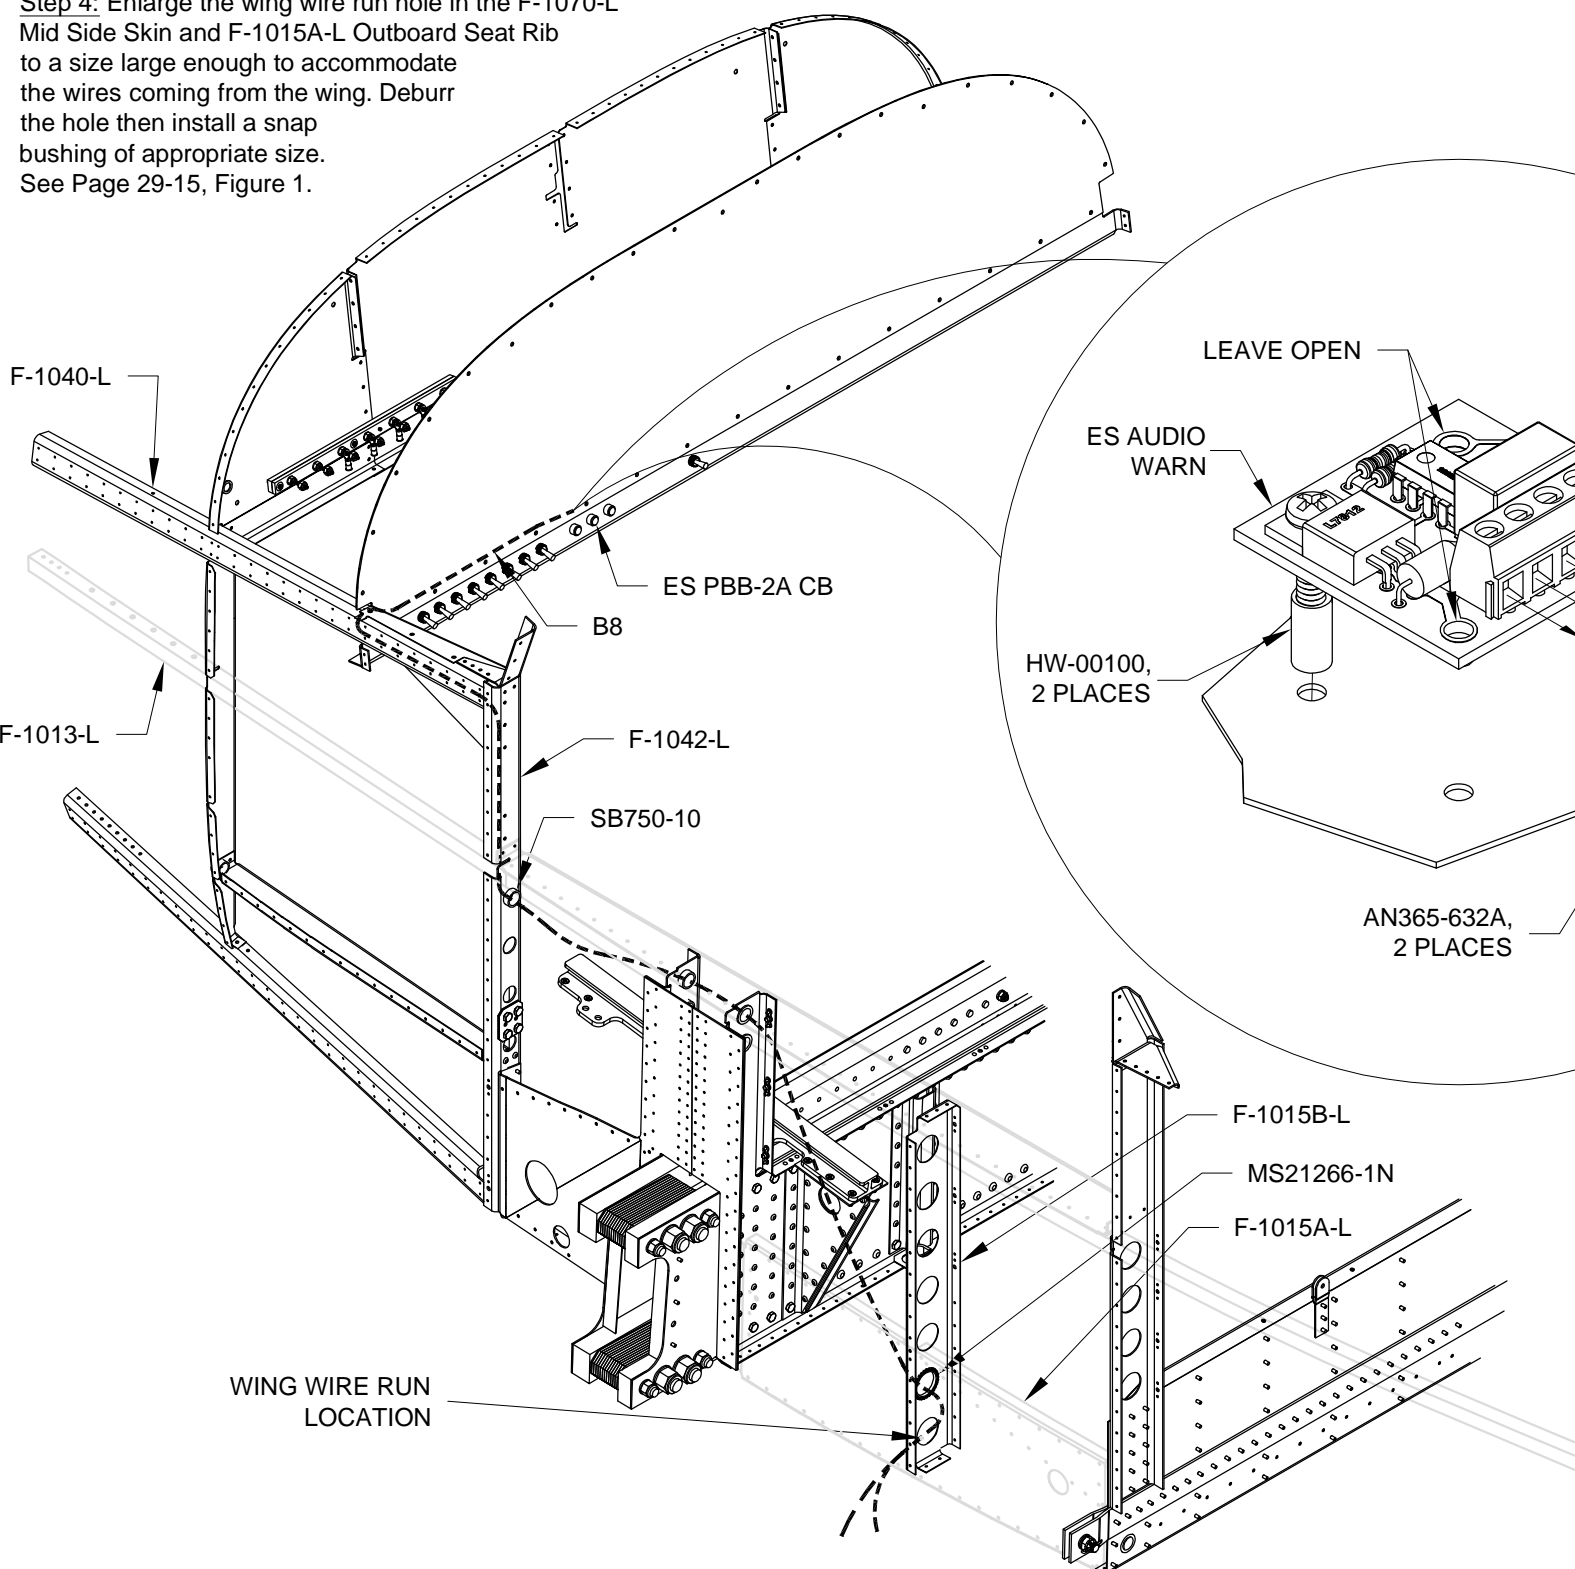

FIGURE 1: WIRE ROUTING AND BUZZER INSTALLATION
Step 5: Install an SB750-10 snap bushing in the F-1042-L Bulkhead Side Channel as shown in Figure 1.
Step 7: Route B8 as shown in Figure 1 and as diagrammed in Figure 2. It does not matter which side of the ES E22-50K switch is connected to the ES PBB-2A CB circuit breaker or the ES Audio Warn.